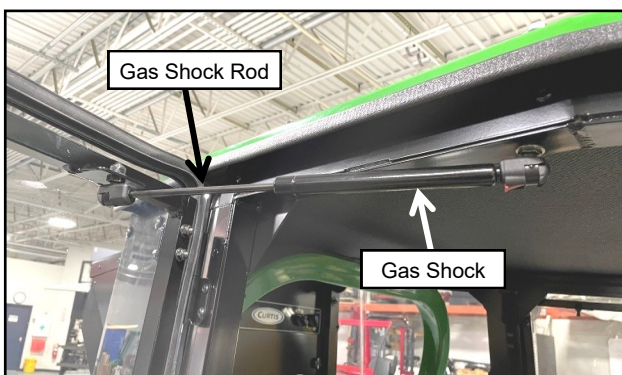
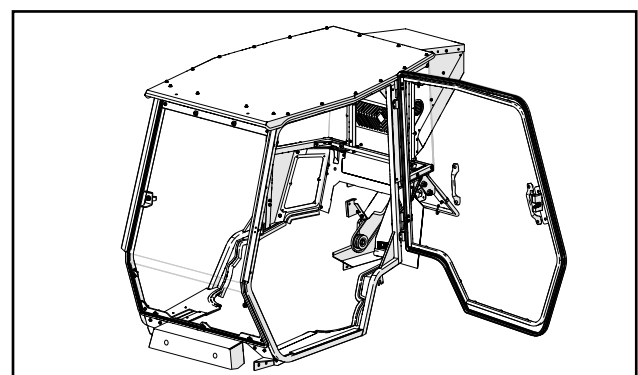

Fig. 2.36b (Install Door Gas Shock, Right)
Fig. 2.36a (Re-Install Door, Left)
2.36 Per Figure 2.36a, re-install the left and right doors. Next, install gas shocks onto the doors and side frames as shown on figure 2.36b. Make sure rod side gas shock is on the door side.